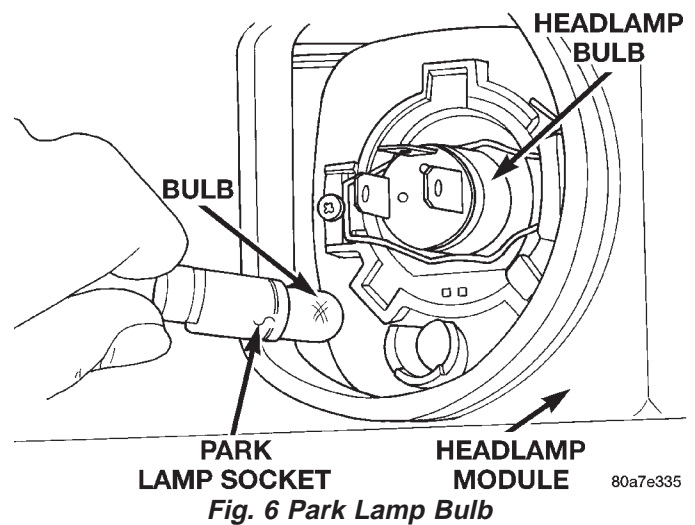

Fig. 6 Park Lamp Bulb
- (6) Pull park lamp bulb socket from headlamp module (Fig. 6).
- (7) Pull bulb from socket.